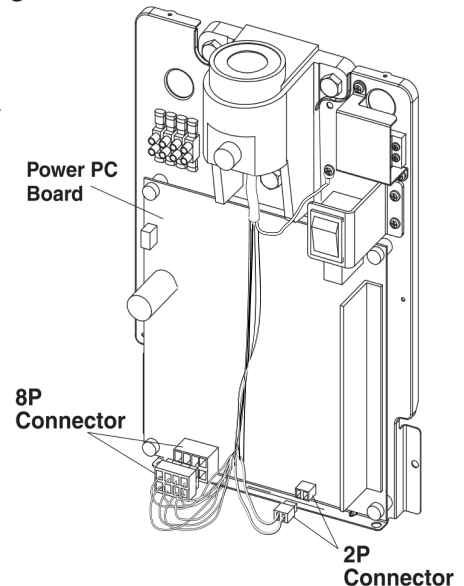

Fig.3-8 Connecting 2P and 8P Connectors on Power PC Board
- Connect 2P and 8P connectors of horizontal arm cable to the respective connectors on power PC Board. **(Fig.3-8)**